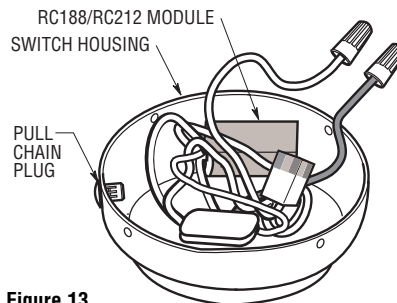

Figure 13
- 4. Remove the speed control switch and reversing switch capacitor. Position the RC188/RC212 module into the switch housing (Figure 13).